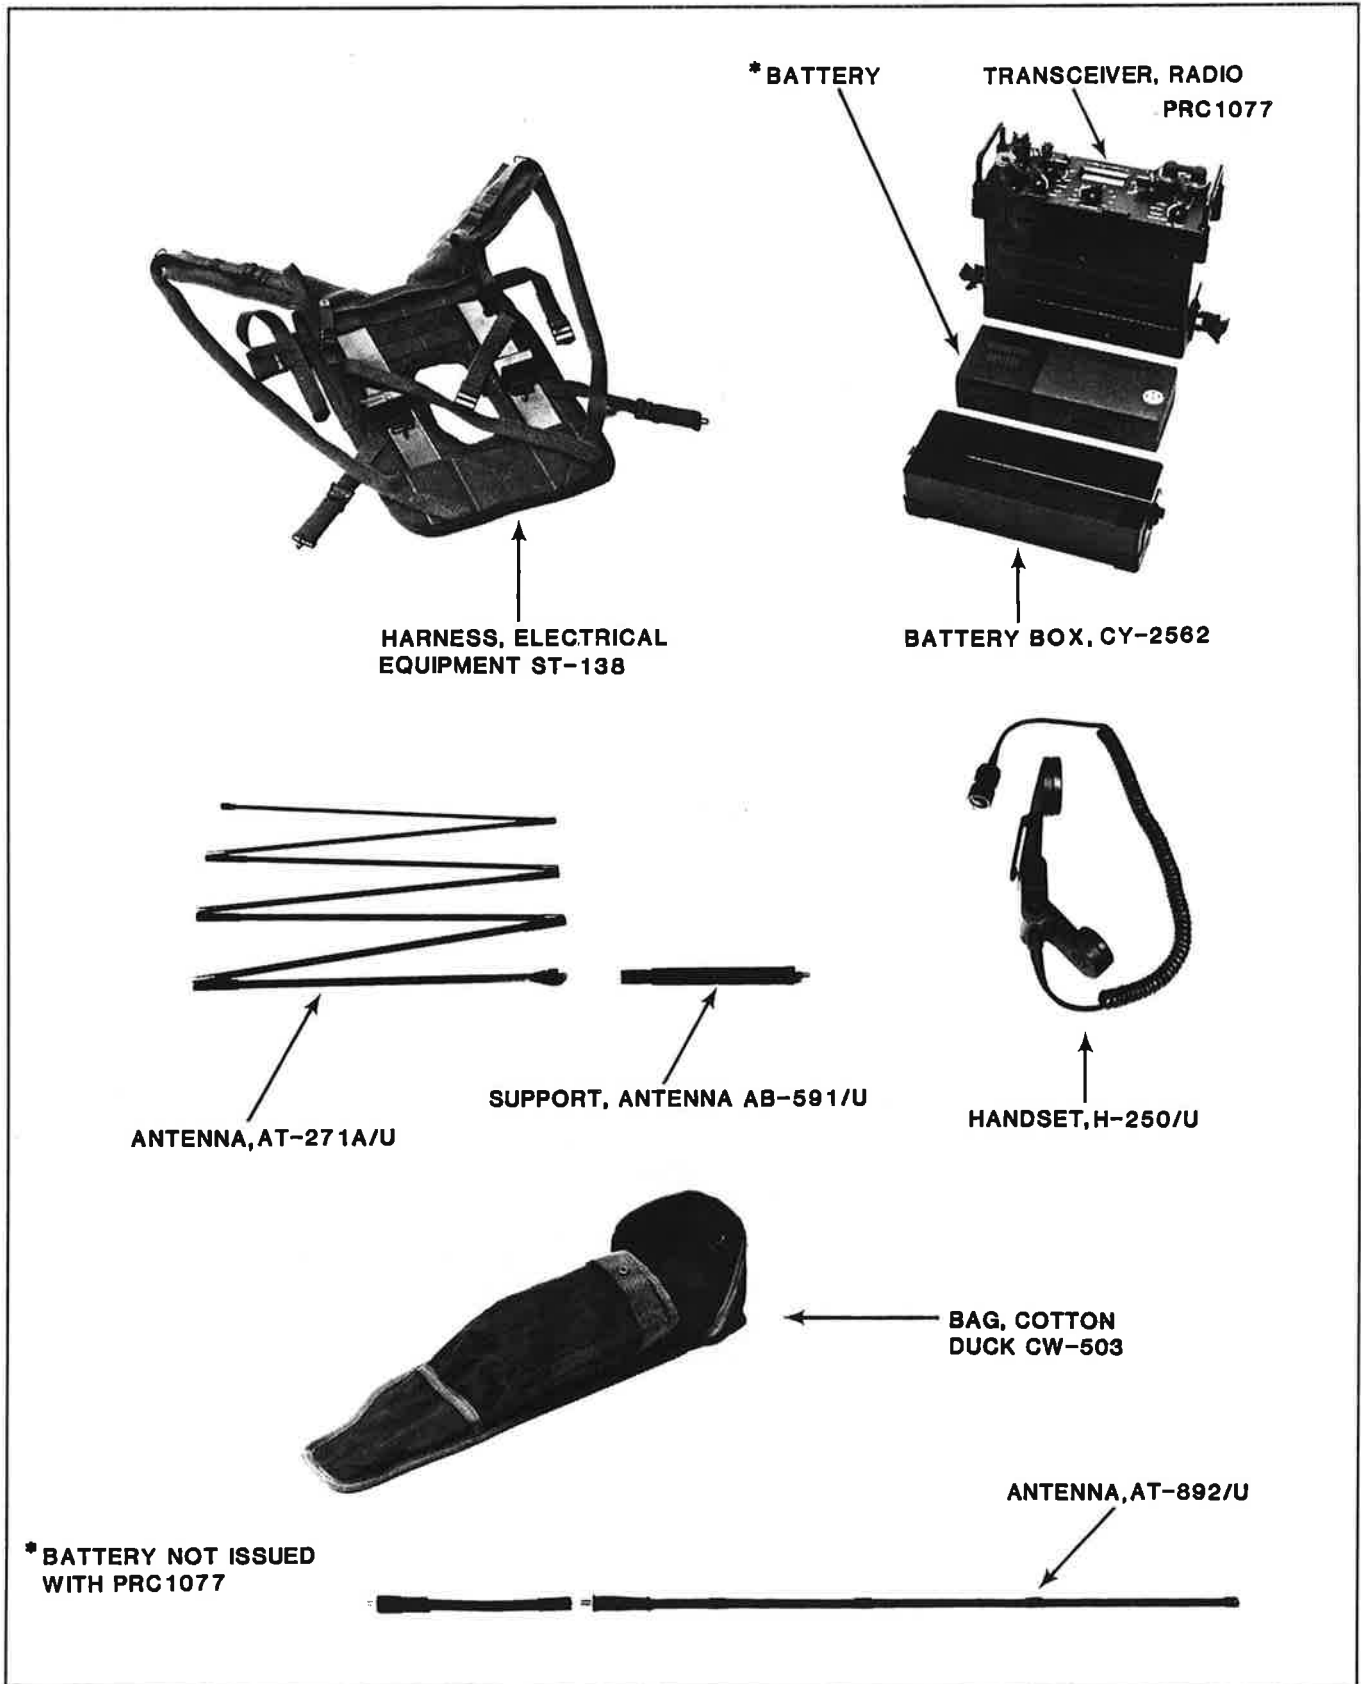

FIGURE 1-2.
1-4. Items Used with PRC1077 (Figure 1-2)
1-5. General Description (Figure 1-2)
(1) The transceiver is held in the case by four captive screws. The battery box is attached to the case by two clamps. The complete PRC1077 is watertight when assembled. All controls are on the front panel. The battery connector projects from the bottom of the case and plugs into the battery.
(2) The CY-2562 is a lightweight metal case that protects and houses the battery. The battery sits on a foam pad that is attached to the bottom of the case.
(3) A pressure relief valve is installed in the battery case to vent the hydrogen gas (a by-product of the magnesium-battery discharge action), which prevents the gas from accumulating in the transceiver case and exploding. It is important that battery cases have the pressure relief valve when using magnesium batteries.
b. ACCESSORY COMPONENTS (Figure 1-2)
(1) Antenna AT-892/U